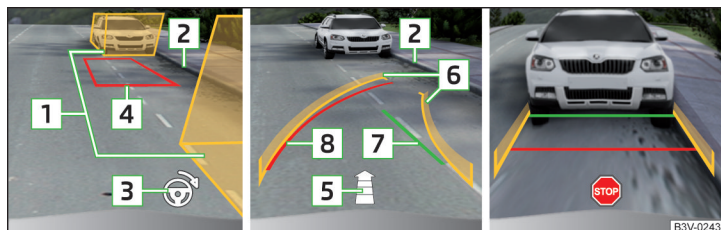

Fig. 255 Screen display
- › Stop the vehicle stop so that there are no obstructions in the gap between the auxiliary boxes **1** » Fig. 255 and the rear box does not extend over the side of the parking space **2** (e.g. kerb).